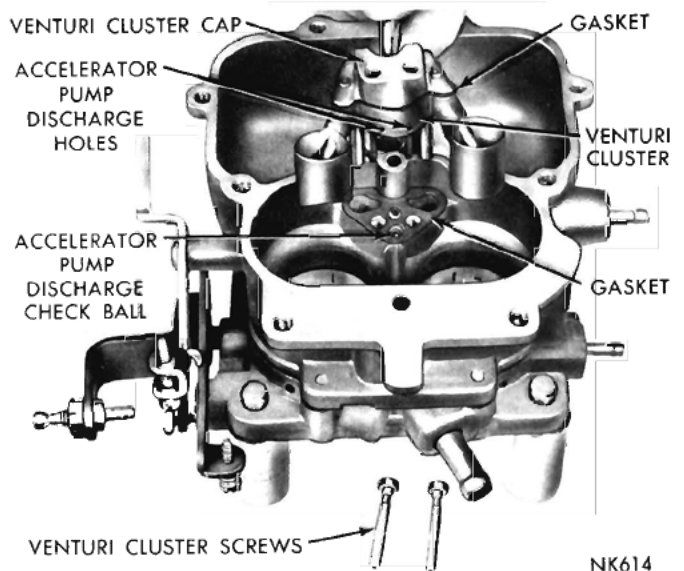

Fig. 4—Removing or Installing the Venturi Cluster
(13) Remove the venturi cluster screws, then lift the venturi cluster and gaskets up and away from the main body, as shown in (Fig. 4). Discard the gaskets.
(14) Invert the carburetor and drop out the accelerator pump discharge check ball and the intake check ball. (The intake check ball is the largest.)
(15) Remove the idle mixture adjusting screws and springs from the throttle body.